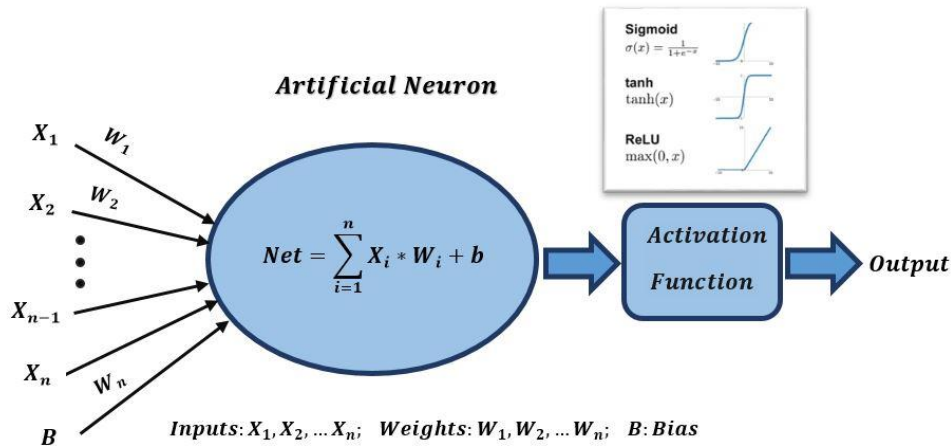
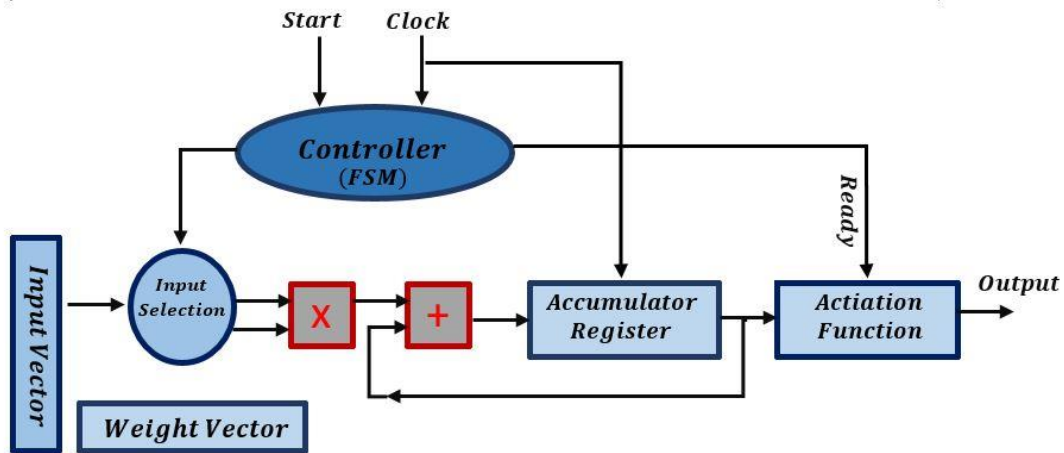

Fig2. A basic artificial neuron model
Fig3. A structural model of an artificial neuron
In this assignment, you should implement a single neuron, depicted in Figure 2. Each neuron in MLP computes the dot product of the inputs and weight vectors and passes the result to an activation function to produce the final output. The weight vector of each neuron is determined during an offline or online training phase. Figure 2 illustrates the required arithmetic operations of a basic neuron, but realistic implementations usually use a **MAC** (multiply-and-accumulate) unit for each neuron to carry out the multiplication/addition operations in serial. Figure 3 shows the implementation of a neuron by applying a MAC module.
As illustrated in Figure 3, initiates computation by receiving a start signal. The controller then reads each input data and its corresponding weight and passes them to the MAC unit in several iterations. Once the MAC calculation is completed, a ready signal is passed to the activation function unit to generate the neuron output.
- The number of neuron inputs in Figure 3 must be parameterized. Set it to a sample integer value when you are testing the design.